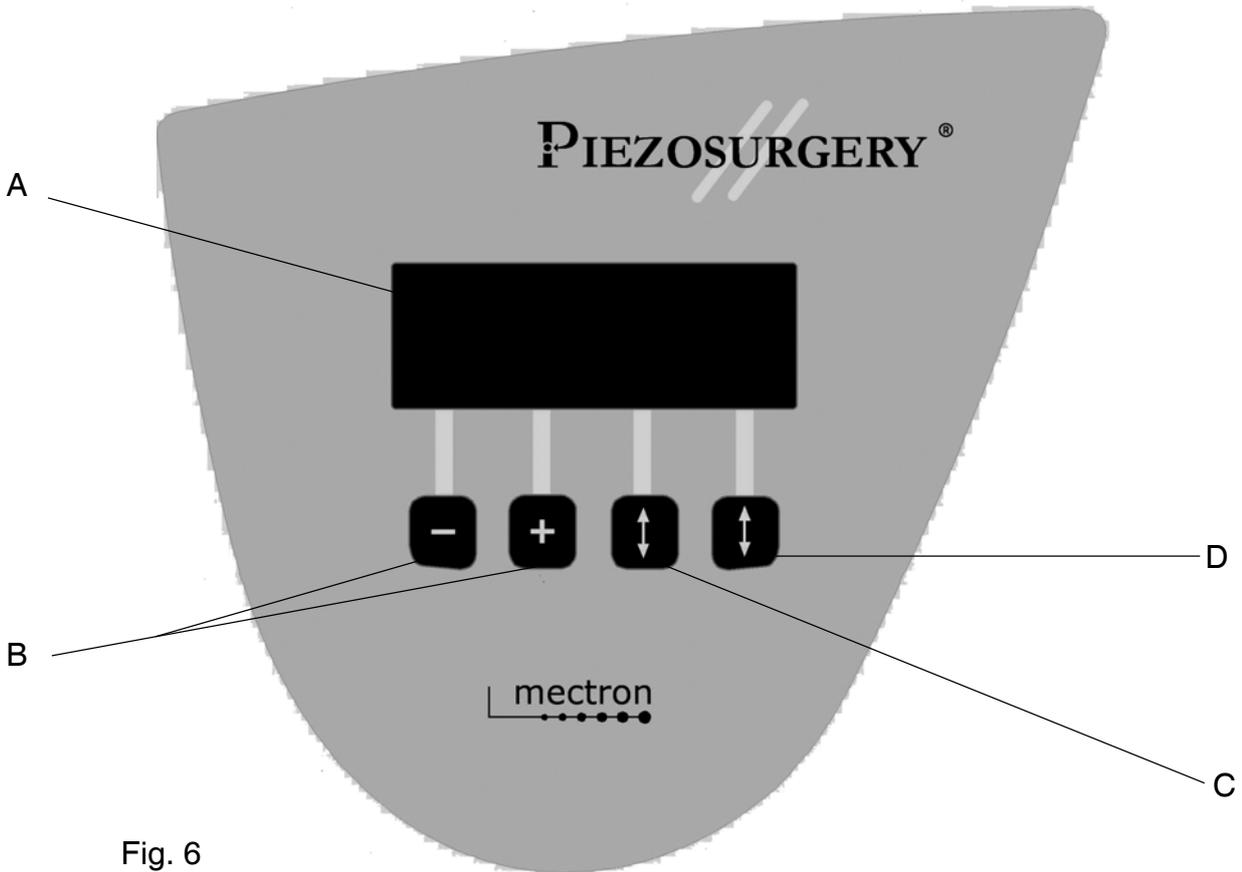
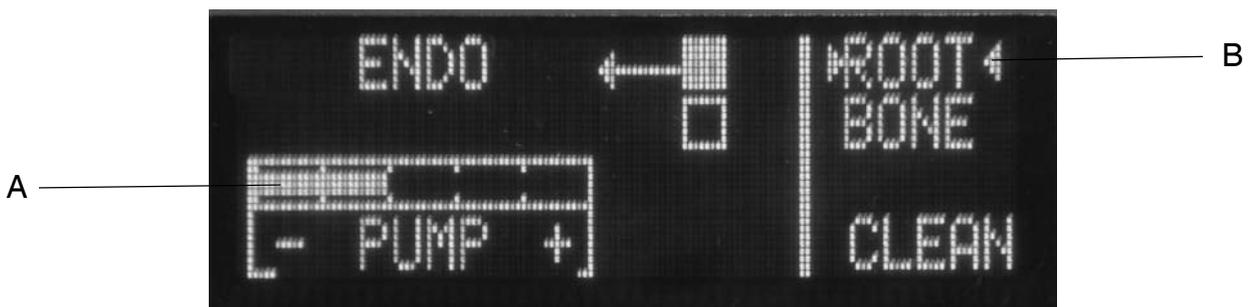

Fig. 6
Fig. 7
This section illustrates the parts of the front panel (Fig.6) of the Piezosurgery unit, enabling the controls described in this manual to be located immediately.
With the Piezosurgery device, two different power modes can be used. These are ROOT and BONE. Press the arrow key (Fig.6 - Ref.D) to set the required power mode. The type of power that has been chosen will be indicated between two pointers (Fig.7 - Ref.B).
**Device in the ROOT mode Fig. 7** - In the ROOT mode, press the power-level key (Fig.6 - Ref.C) to set the following functions:
To adjust the delivery rate of the pump, press the + and – keys (Fig.6 - Ref.B). In the ROOT mode, the speed can be set to between nought and five. The display will show the speed that has been selected (Fig.7 - Ref.A).
**Device in the BONE mode Fig. 8** - In the BONE mode, press the power-level key (Fig.6 - Ref.C) to set the following functions:
To adjust the delivery rate of the pump press the + and – keys (Fig.6 - Rif.B). In the BONE mode, the speed can be set to between one and five. The display will show the speed that has been selected (Fig.8 - Ref.A).
To activate the **CLEAN** function, press the power selection key and hold it down for 5 seconds (Fig.6 - Ref. D). The following message will appear on the display “**Footswitch to start or a key to abort**”. This tells the operator to press the footswitch to start the cleaning cycle or to press any of the four keys below the display to exit from the **CLEAN** function. For further indications concerning the **CLEAN** function, see point 06.1.
- 5 Check the display to see the type of power that has been set (See point 05.3). If the type of power required differs from the type that has been set, use the **key for selecting the type of power** (Fig.6 - Ref.D). This can be pressed to toggle between the **ROOT** and **BONE** functions.
- 6 Check the display to see the power level that has been set (See point 05.3). If the type of power required differs from the level that has been set, use the **key for selecting the power level** (Fig.6 - Ref.C). This can be used to choose between the following options, depending on the type of power that has been set:
- 7 Check the display to see the delivery rate of the peristaltic pump (see point 05.3). If the delivery rate required is other than the level that has been set, use the **PUMP +** and **-** keys (Fig.6 - Ref. B) to choose between the following, depending on the type of power that has been set:
- NOTE:** Sprayless treatment is only possible in the ROOT function, setting the delivery rate of the peristaltic pump **PUMP** to **nought** (Fig.7 - Ref.A). No notches should be shown on the display.
- 3 To activate the **CLEAN** function, press the power-selection key and hold it down for 5 seconds (Fig.6 - Ref.D). The following message will appear on the display "**Footswitch to start or a key to abort**".